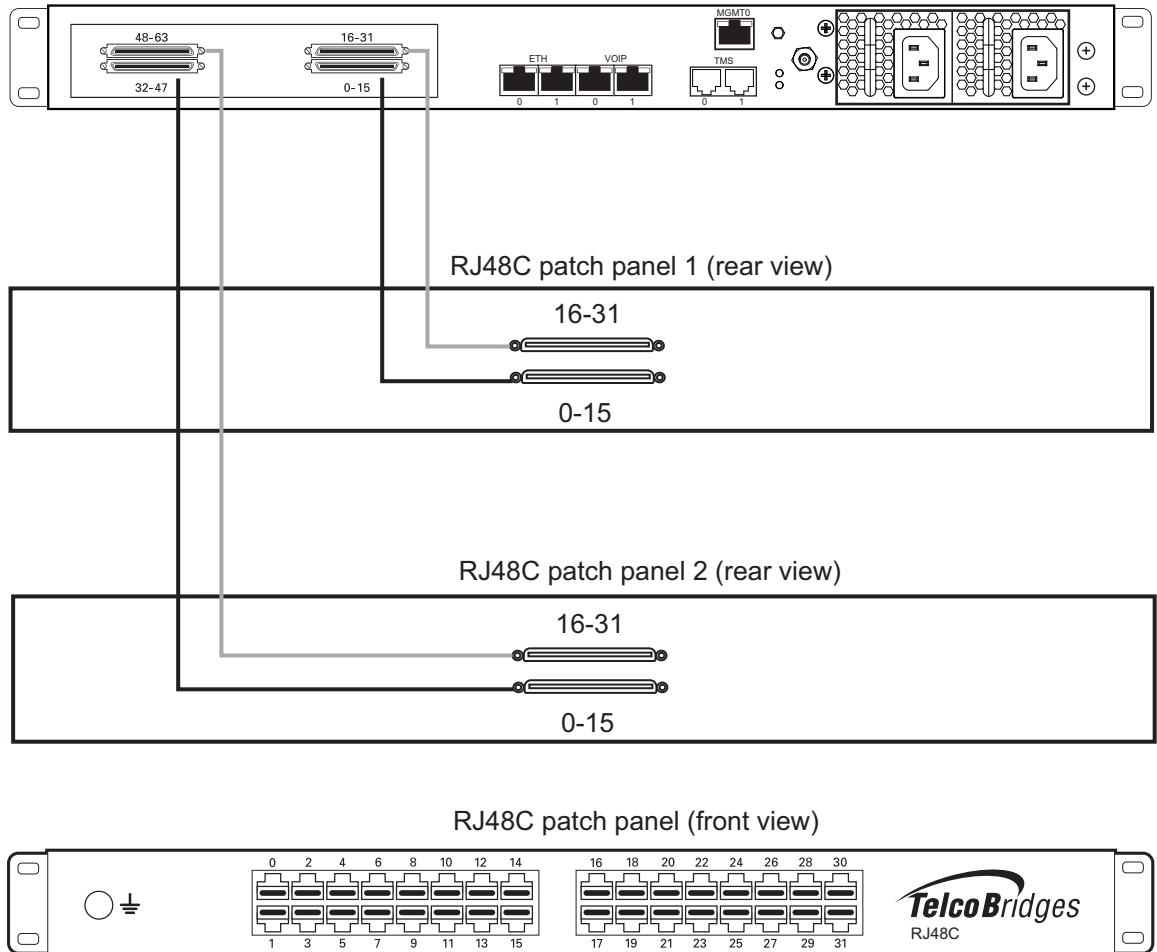

Figure 4.3 TMG7800-TE with SCSI connectors
1. Start with SCSI ports 0-15 located at the bottom right as shown in figure 4.3 on page 28. Connect one SCSI cable between this port and RJ48C patch panel number 1, ports 0-15. Connect SCSI ports 16-31 to patch panel number 1, ports 16-31.